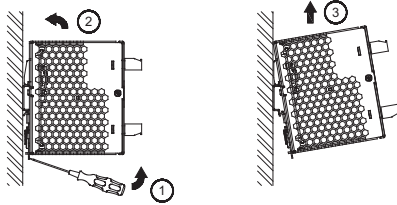

Figure 3
4. Dismounting (Fig. 3)
To uninstall, pull or slide down the latch as shown in Fig. 3. Then, slide the power supply unit (PSU) up, release the latch and pull out the PSU from the rail.